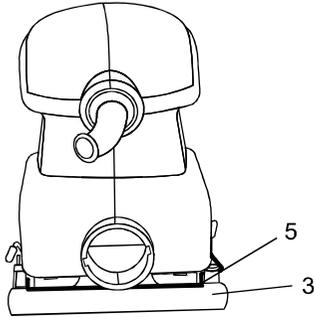

Fig. 4
3. Wrap sandpaper sheet (3) over backing pad and insert it into the open rear sandpaper clamp (5) (see Fig. 4). **NOTE:** Make sure sandpaper is pulled tight over the backing pad for proper sanding operation.